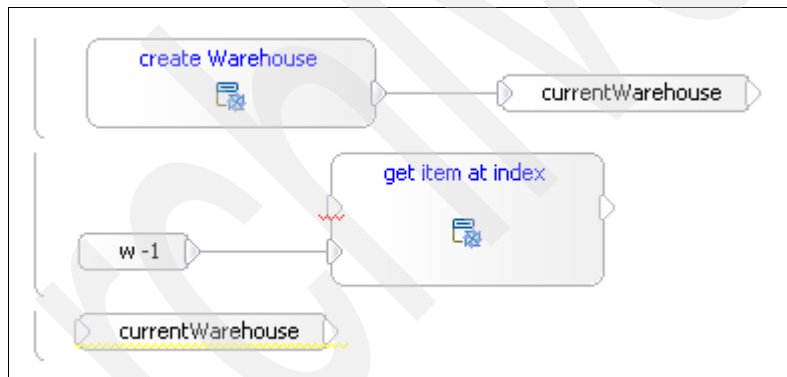

Figure 3-204 Adding another copy of currentWarehouse to the canvas
6. Set the output of **get item at index** to go to the temporary variable **currentWarehouse** (Figure 3-204):